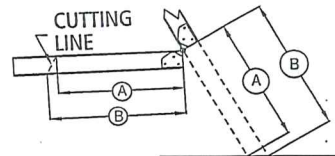

FIGURE 7 (repeated from previous page)
B. Transfer cut length dimensions from table 4 to the bottom section of the ladder right and left rails and draw a cutting line between the two points. Trim bottom section to length using a metal cutting saw (figure 7).